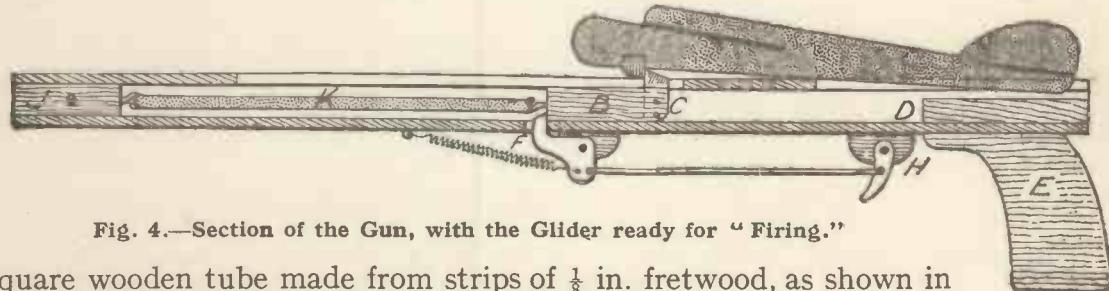

Fig. 4.—Section of the Gun, with the Glider ready for "Firing."
**How to Make the Catapult.**—Fig. 4 shows the complete device in section, with the glider in place ready to be discharged. The body of the catapult is a
square wooden tube made from strips of  $\frac{1}{8}$  in. fretwood, as shown in cross-section in Fig. 5. Slots must be cut as shown in Figs. 4 and 5. This is best done before adding the top to the tube. The block B, then, may be made and fitted so as to run freely through the tube. At its back end a saw-cut is made, into which the brass strip C is inserted and secured with two rivets. The projecting head of the strip must have a free run along the slot (see Fig. 4). At the back end of the tube a block D is glued in place to give a firm attachment for the pistol handle E.